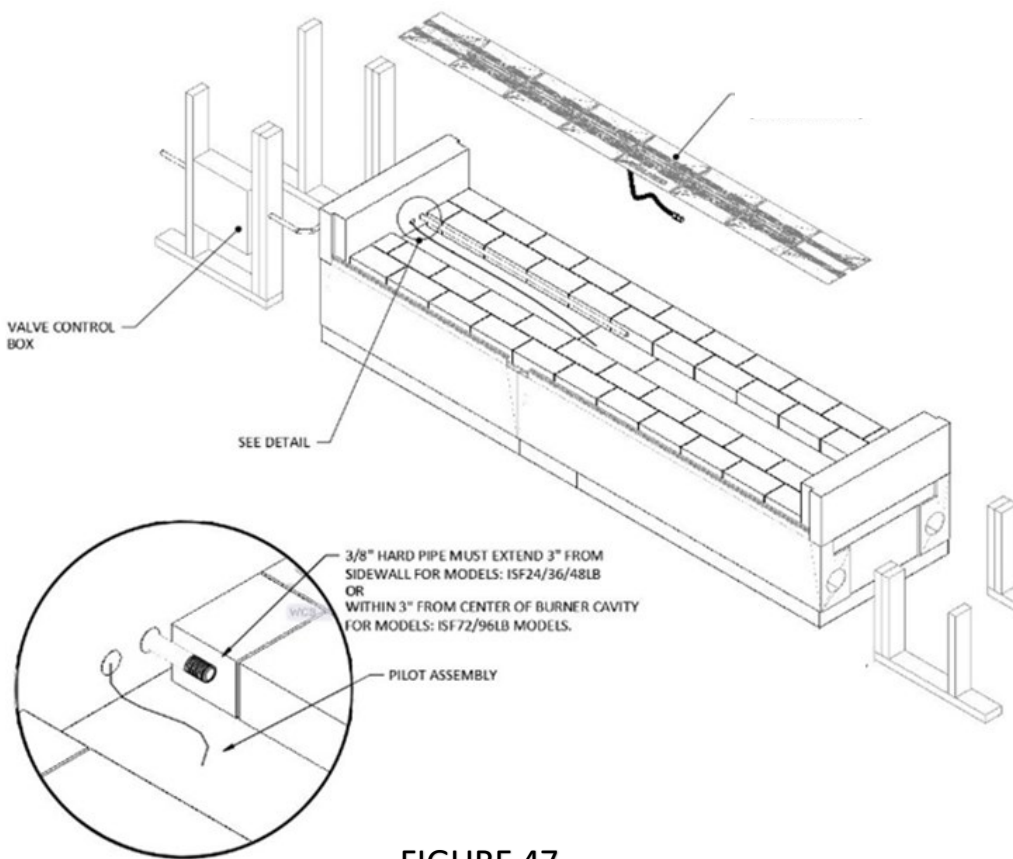

FIGURE 47
- 4) The 48" and 72" Maximus Linear See-Thru fireplaces (82L48ST & 82L72ST) will require the ISF36/60LB (N/P) (respectively): Gas supply piping for these models shall terminate not less than 3" from sidewall. (**Figure 47**)
- 5) The 96" and 120" Maximus Linear See-Thru fireplaces (82L96ST & 82L120ST) will require the ISF72/96LB (N/P) (respectively): Gas supply stub piping for these models shall terminate within 3" from center of the cavity. (**Figure 47**)